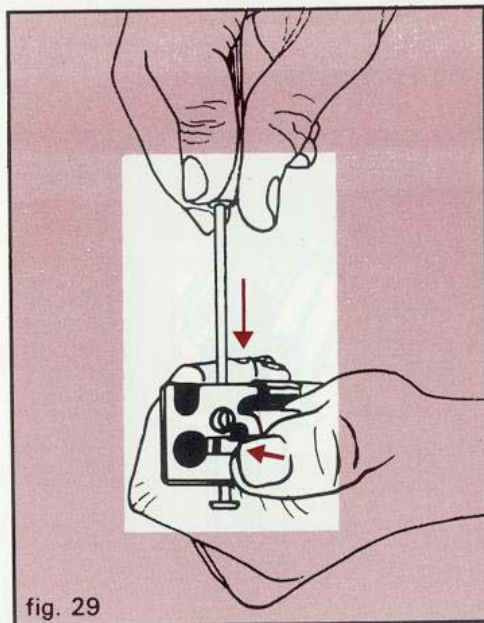

fig. 29
1. Using a suitable drift pin ($1/8''$ to $5/32''$ dia.) push out extractor retaining pin from its shank end, holding finger over blocking latch to keep spring from jumping out (fig. 29), then carefully remove blocking latch with spring.